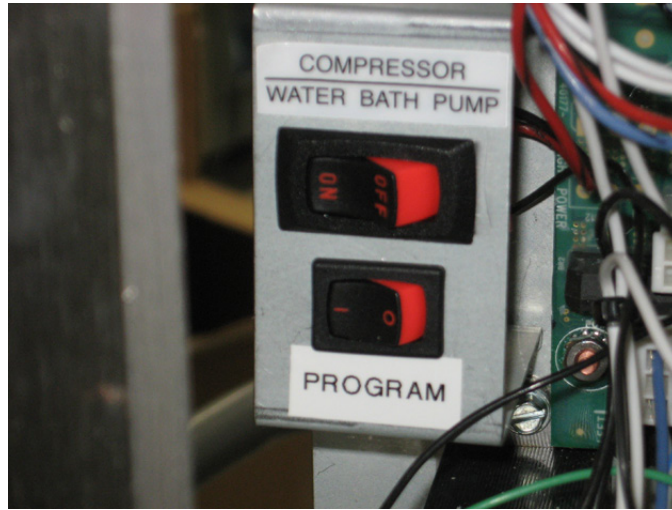
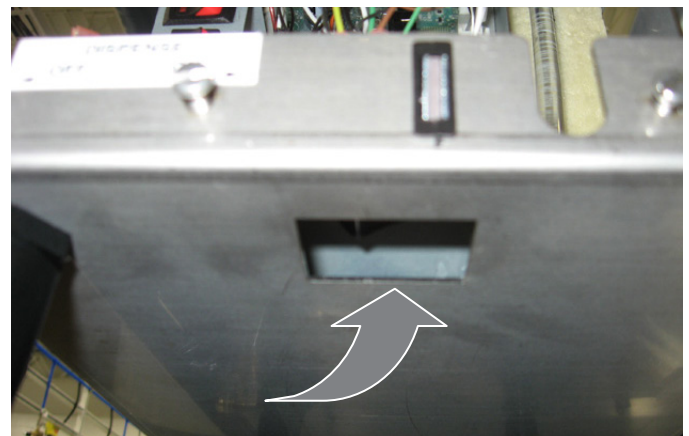

FIG 7 Refrigeration Switch
FIG 13 Dispense Lockout Switch
4. Set the Program Switch (Fig. 7) to the ON position. (On older models without program switch, set the Dispense Lockout Switch (Fig. 13) to the OFF position)
7. Turn ON the refrigeration switch near the main control board (Fig. 7). This will start the water bath pump circulation.